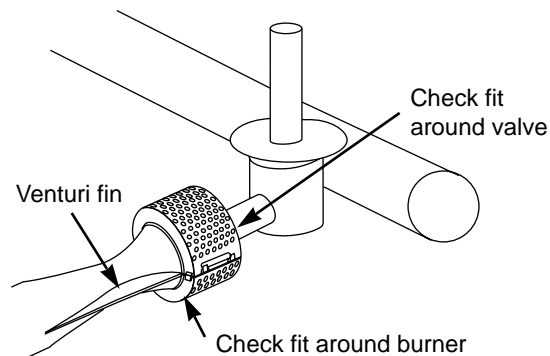

Figure 11
- i) Reinstall the Spider Stopper Guards. Slightly rotate the Spider Stopper Guards so that the seams are in line with the Venturi fins. There should be no gaps in the seams or in the fit around the burners and valves. Figure 11.